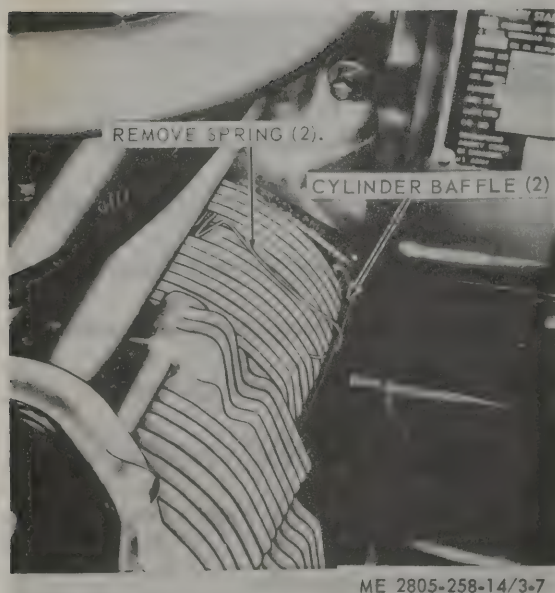

Figure 3-7. Cylinder baffles and springs, removal and installation.
(1) Remove top and side shrouds (para 3-17).
(2) Refer to figure 3-7 and remove cylinder baffles and springs.
(1) Refer to figure 3-7 and install cylinder baffles and springs.
(2) Install top and side shrouds (para 3-17).